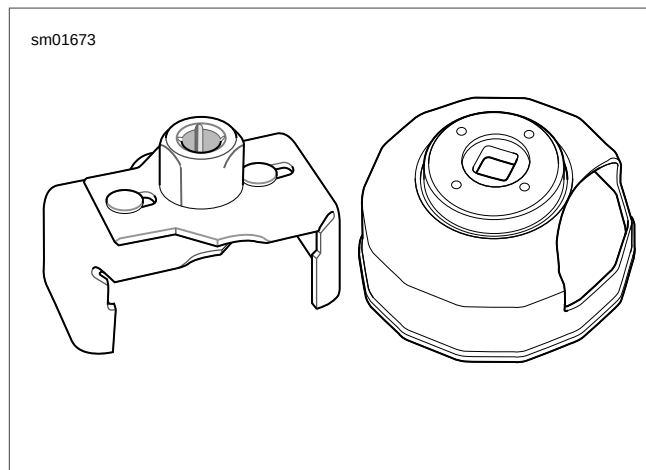
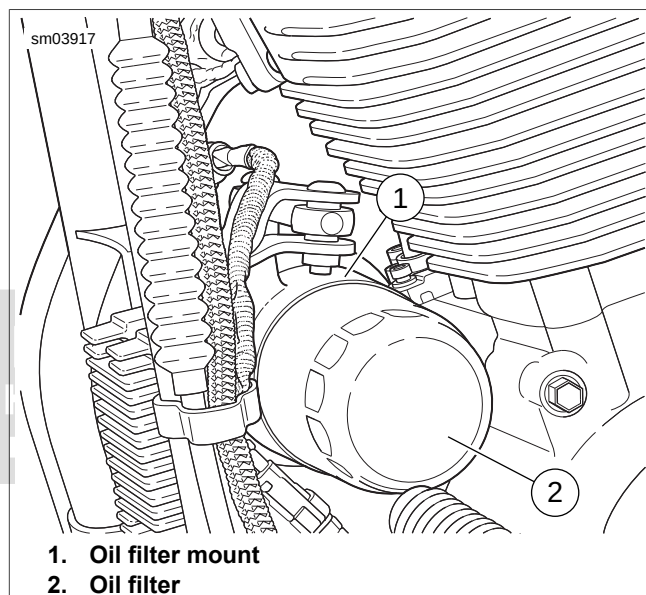

Figure 1-5. Oil Filter Wrenches
Figure 1-6. Oil Filter
2. See Figure 1-5 and Figure 1-6. Remove oil filter using HARLEY-DAVIDSON OIL FILTER WRENCH (Part No. HD-42311) or HARLEY-DAVIDSON OIL FILTER WRENCH (Part No. HD-44067-A). Turn oil filter counterclockwise to remove from filter mount.